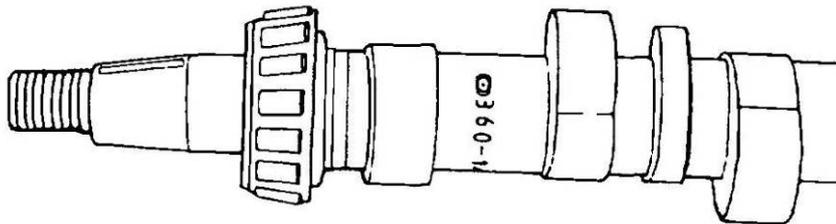

Figure 82 Camshaft Identification Number Location
- k. Install the spacers and shims onto the camshaft. Using a suitable arbor and a press, press the bearings on with the tapers facing toward the ends of the camshaft. Ensure that the bearings butt firmly against the shims. Lubricate the bearings and camshaft lobes with clean engine oil. Insert the camshaft into the bore in the injection pump housing with the identification code (Figure 82) on the camshaft toward the front of the injection pump.